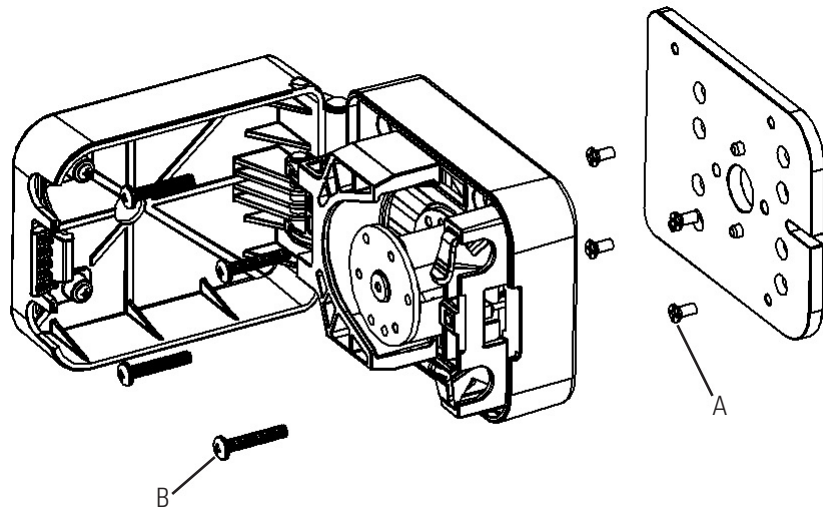

Figure 2-1. Mounting Holes
1. Check that pump drive is turned OFF. Install mounting plate using four (4) #8-32 PFHS (furnished). (Labeled "A" in Figure 2-1.)
4. Secure pump to pump drive with the four (4) #10-32 PPHS mounting screws (furnished). (Labeled "B" in Figure 2-1.)